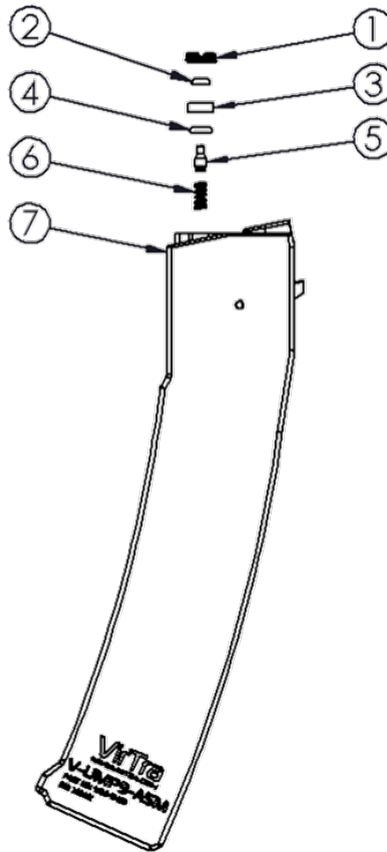

Figure 3: Double Seal Assembly
- Remove the double seal cap (Figure 3, #1) using a thick blade screwdriver.
- Use a small pick or screwdriver to remove the 005 O-ring (Figure 3, #2) and double seal spacer (Figure 3, #3). Inspect the O-ring and replace if any damage/wear is present.
- Use a small pick or screwdriver to remove the 007 O-ring (Figure 3, #4). Inspect the O-ring and replace if any damage/wear is present.
- Invert the magazine and allow the double seal valve (Figure 3, #5) and compression spring (Figure 3, #6) to drop free. Inspect the spring and replace if any damage/wear is present.